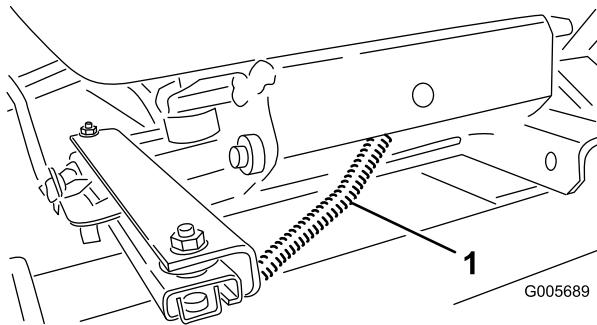

Figure 13
7. Route seat switch harness through holes in seat support and seat suspension (Figure 13). Plug wire harness connector into seat switch connector on bottom of seat.